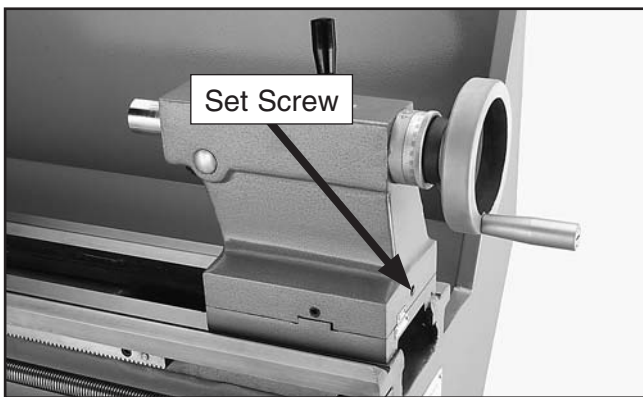

Figure 35. Tailstock off-set adjustments.
1. Lock the tailstock in position and loosen the set screw located on the end of the tailstock (see **Figure 35**).